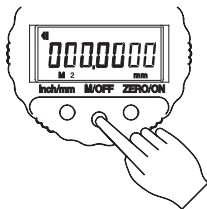

Figure 5 - Entering the Preset
- 2) Press and release **M/OFF** once to enter the Preset Mode (**M2** appears in the lower left corner of the display) (Figure 5).
- 2) Press and release **M/OFF** to display the **M2** icon (Figure 5).